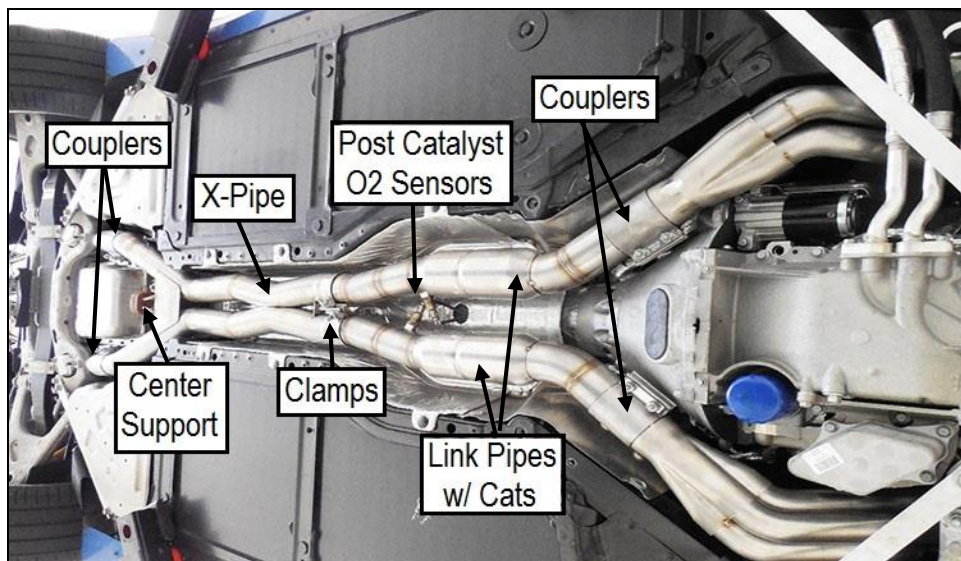

Figure 6
9. Install the 76mm band clamps onto each inlet pipe of the Blackheart X-pipe (expanded end with notches). The clamps need to be configured so the threaded stud of the clamp is positioned to align with the cut out in the lower skid plate (**Figure 6**).
10. Install the RIGHT cat link pipe (long link pipe) into the X-pipe's short expanded end (**Figure 6**). Tighten the clamp to allow for adjustment.
11. Install the LEFT cat link pipe (short link pipe) into the X-pipe's long expanded end (**Figure 6**). Tighten the clamp to allow for adjustment.
16. Install the 3" Torca couplers onto the outlet of the X-pipe with the bolts towards the transmission and nuts facing down (**Figure 6**).